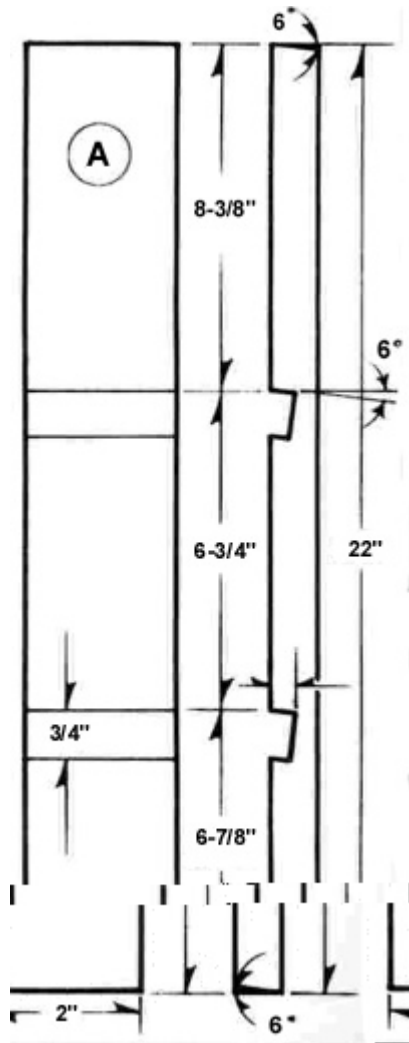

Figure 1: Side Pieces (A)
1. Cut the two side pine pieces (A) according to the specified dimensions.
2. Use the dado-head to cut the shelf grooves and ends at a 6-degree angle on both side pieces (A) (see **Figure 1**).
3. Choose the wood from which you would like to cut the back pieces (B): scrap wall paneling or 1/4" plywood are two possibilities.
4. Measure the actual thickness of the wood for the back pieces (B).